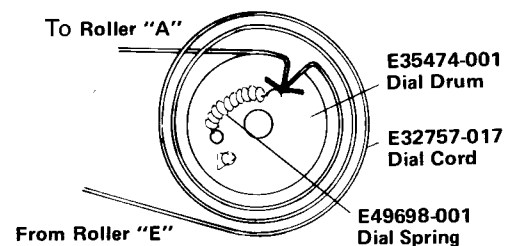

Fig. 16
2. Tie end of new dial cord to one end of dial spring. Connect other end of dial spring of bottom left eye inside dial drum. See Fig. 16.
8. Guide the dial cord over the dial drum and wind 2-1/2 turns clockwise. See Fig. 16.